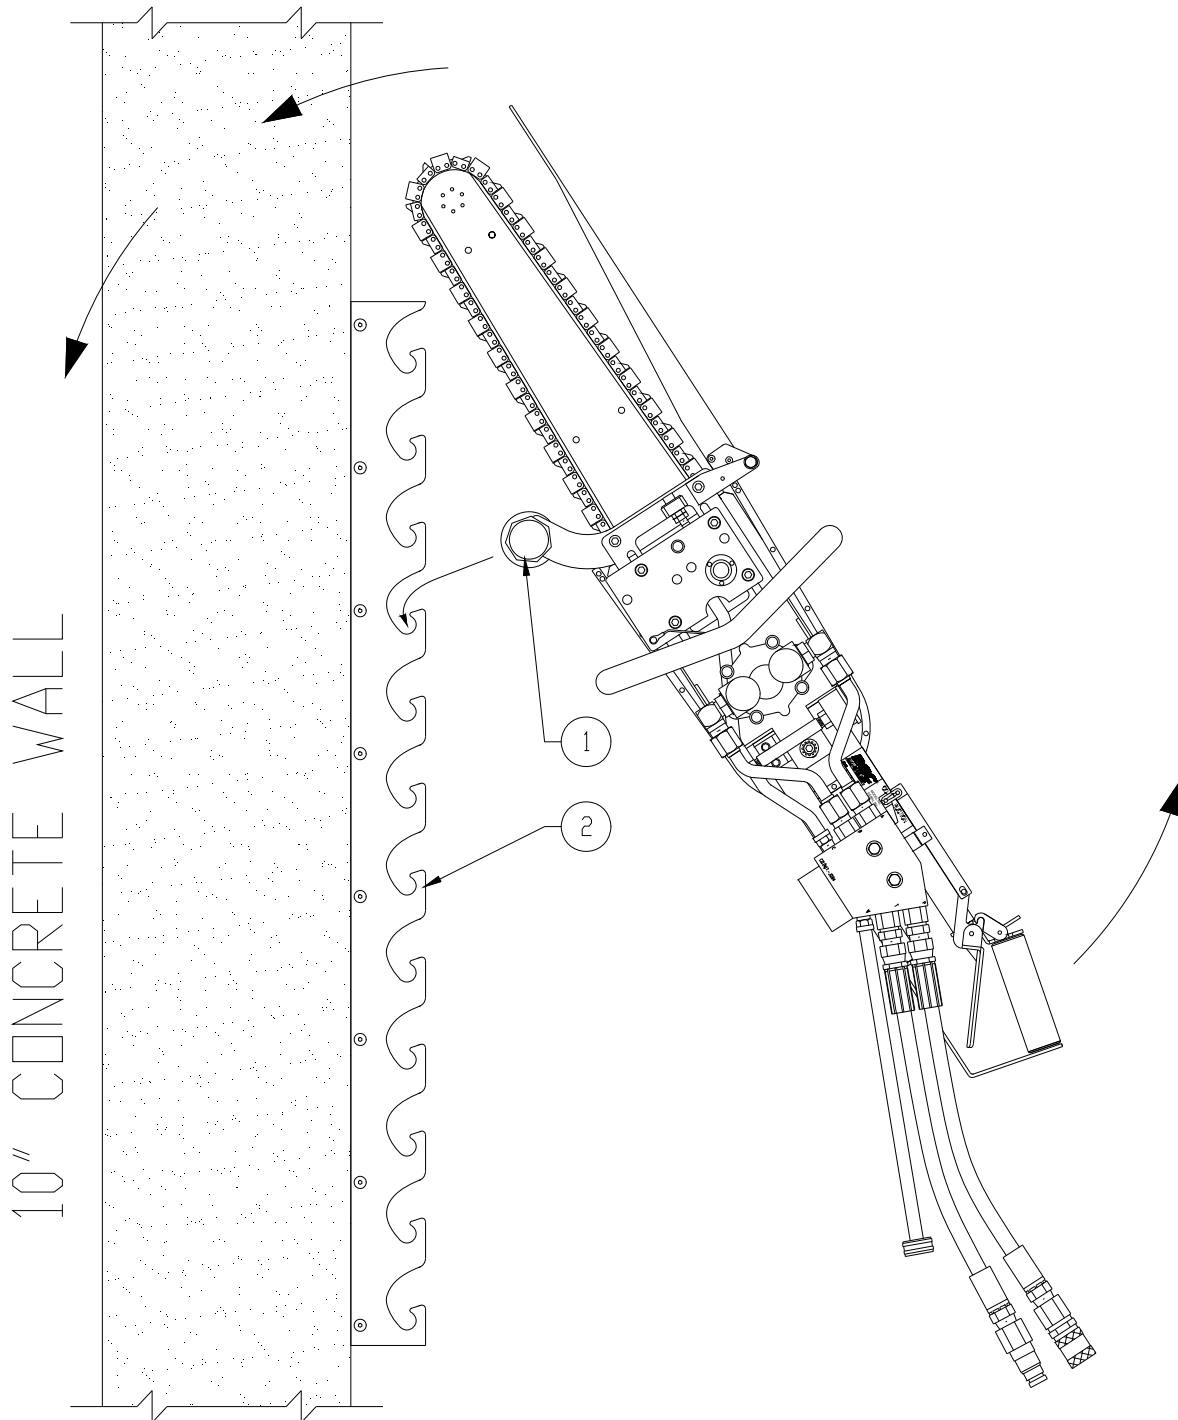

Figure 3-1.
Refer to Figure 3-1.
1. Grasp the auxiliary handle of the Hydracutter with your left hand. Use the appropriate part of the handle for engaging the axial mount into the hooks of the track near the beginning of the cut. The axial mount and track hooks are shown as items #1 and #2, respectively, in Figure 3-1.